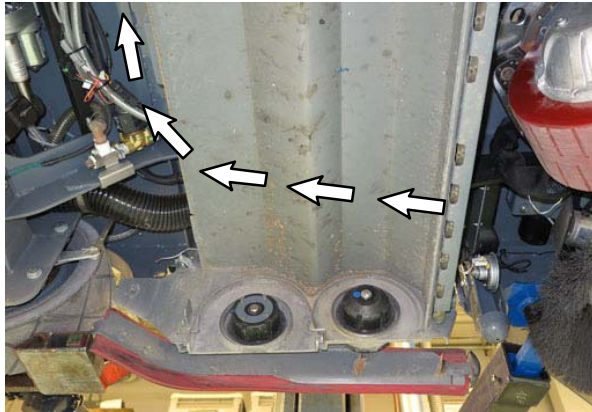
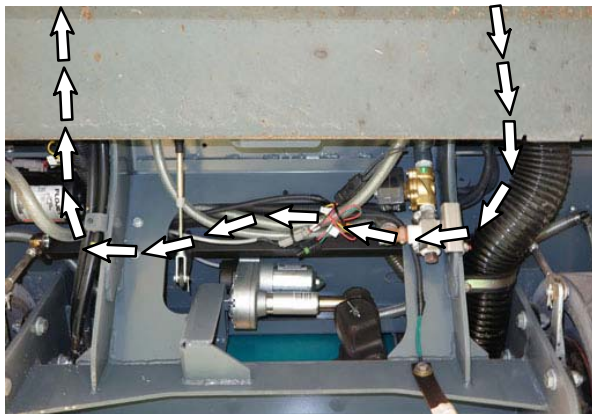

FIG. 12
FIG. 13
15. Route the telemetry harness (12) along the main wire harness / frame cross member, over the top of the scrub head, through the channel behind the scrub head, and along the opposite frame cross member to the opening in the electrical enclosure. (Fig. 12 / Fig. 13)